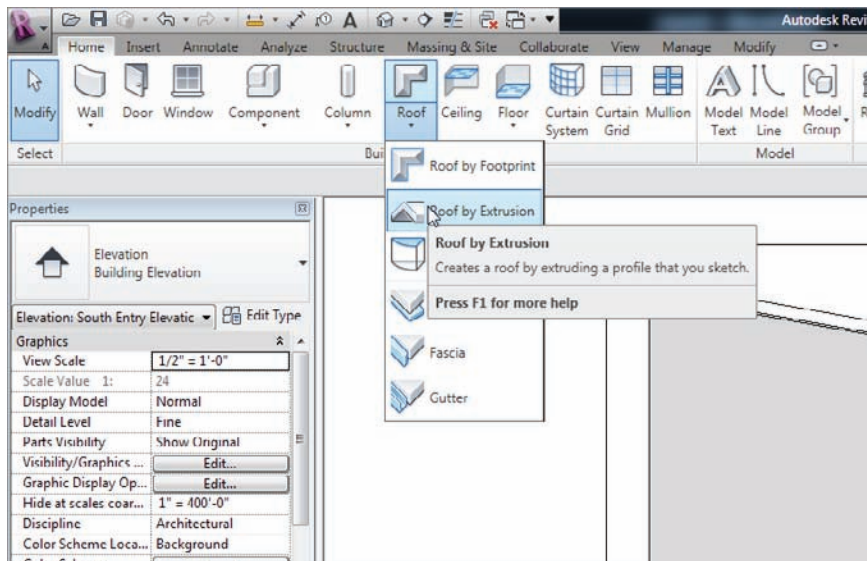

FIGURE 7.49 The Roof > Roof By Extrusion command
1. On the Home tab, choose Roof > Roof By Extrusion, as shown in Figure 7.49.